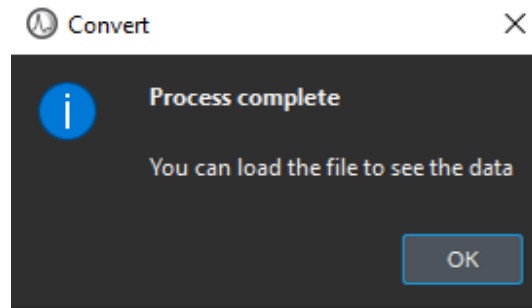

Figure 13.10: Convert Spreadsheet, Process Complete Pop-up
4. The **Convert** button (Fig. 13.7, 4) initiates the conversion process. A **Process Complete** pop-up window (Fig. 13.10) will be displayed if the conversion was successful. To view the file in the **File Manager** you must first load it (See Section 13.2).